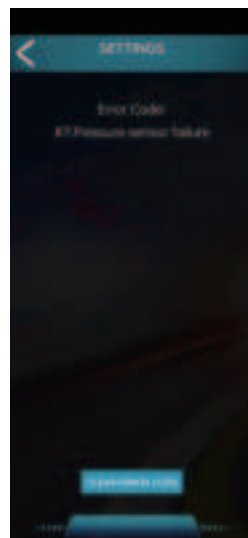

Fig. III.6.1
1) Use the option button in the upper right corner of the APP main window to access the options screen, select the TROUBLESHOOT option to access the Troubleshooting screen, and troubleshoot according to the IV. Troubleshooting Guide. Click the CLEAR ERROR CODE button below to clear the error code information as shown in Fig.III.6.1.